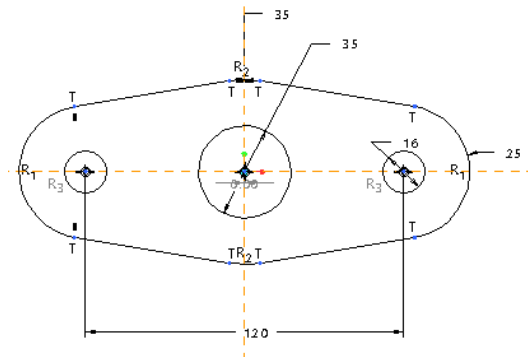

Figure 3-33 Sketch after modifying the dimensions
- Modify the dimensions of the sketch, refer to Figure 3-33.
The sketch after modifying the dimension values is shown in Figure 3-33.